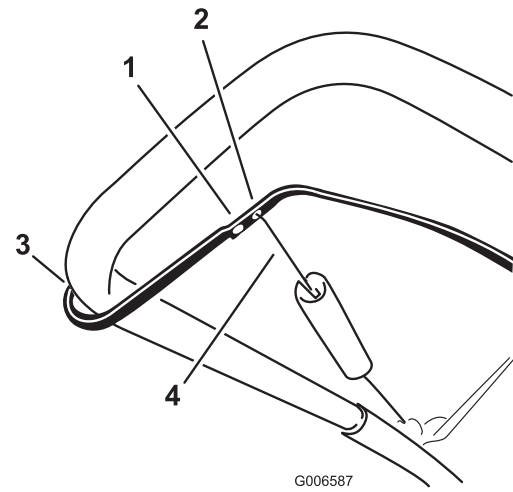

Figure 27
**Note:** After extended use, the drive belt may wear and lose its proper belt tension. If the drive belt slips (continuously squeals) under a heavy load, disconnect the spring from the adjuster link and move the upper end of the spring to the hole that is further from the pivot point in the control bar (Figure 27). Then connect the spring to the adjuster link and adjust the control cable.